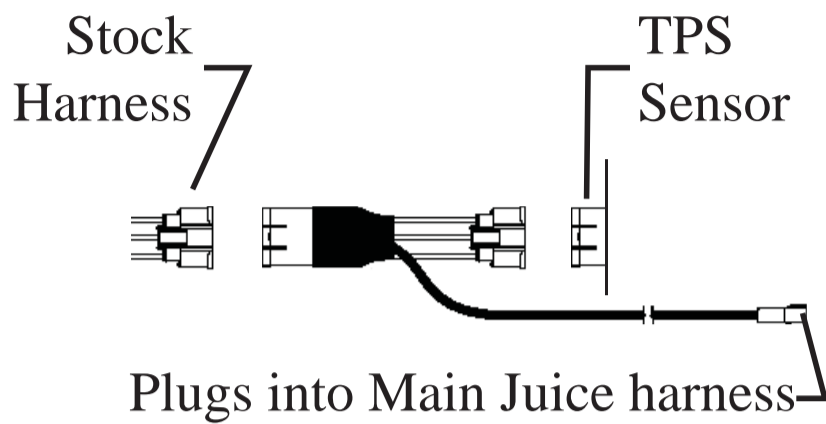

FIGURE 13 - "T" Assembly
3. Connect the TPS connectors in between the stock harness and the sensor as shown in Figure 13.